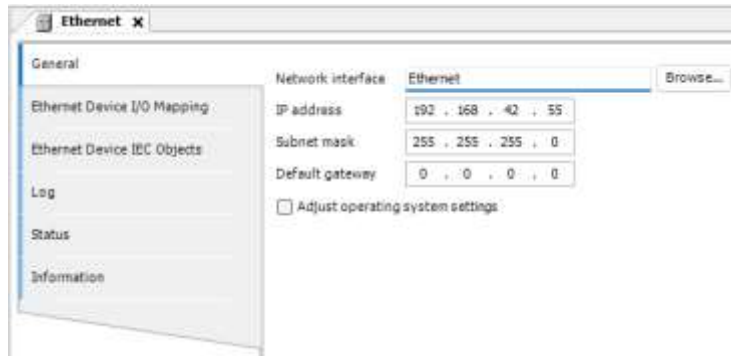

Figure 34. General Configuration Ethernet Adapter
- d. Configure the adapter IP settings according to Figure 34.